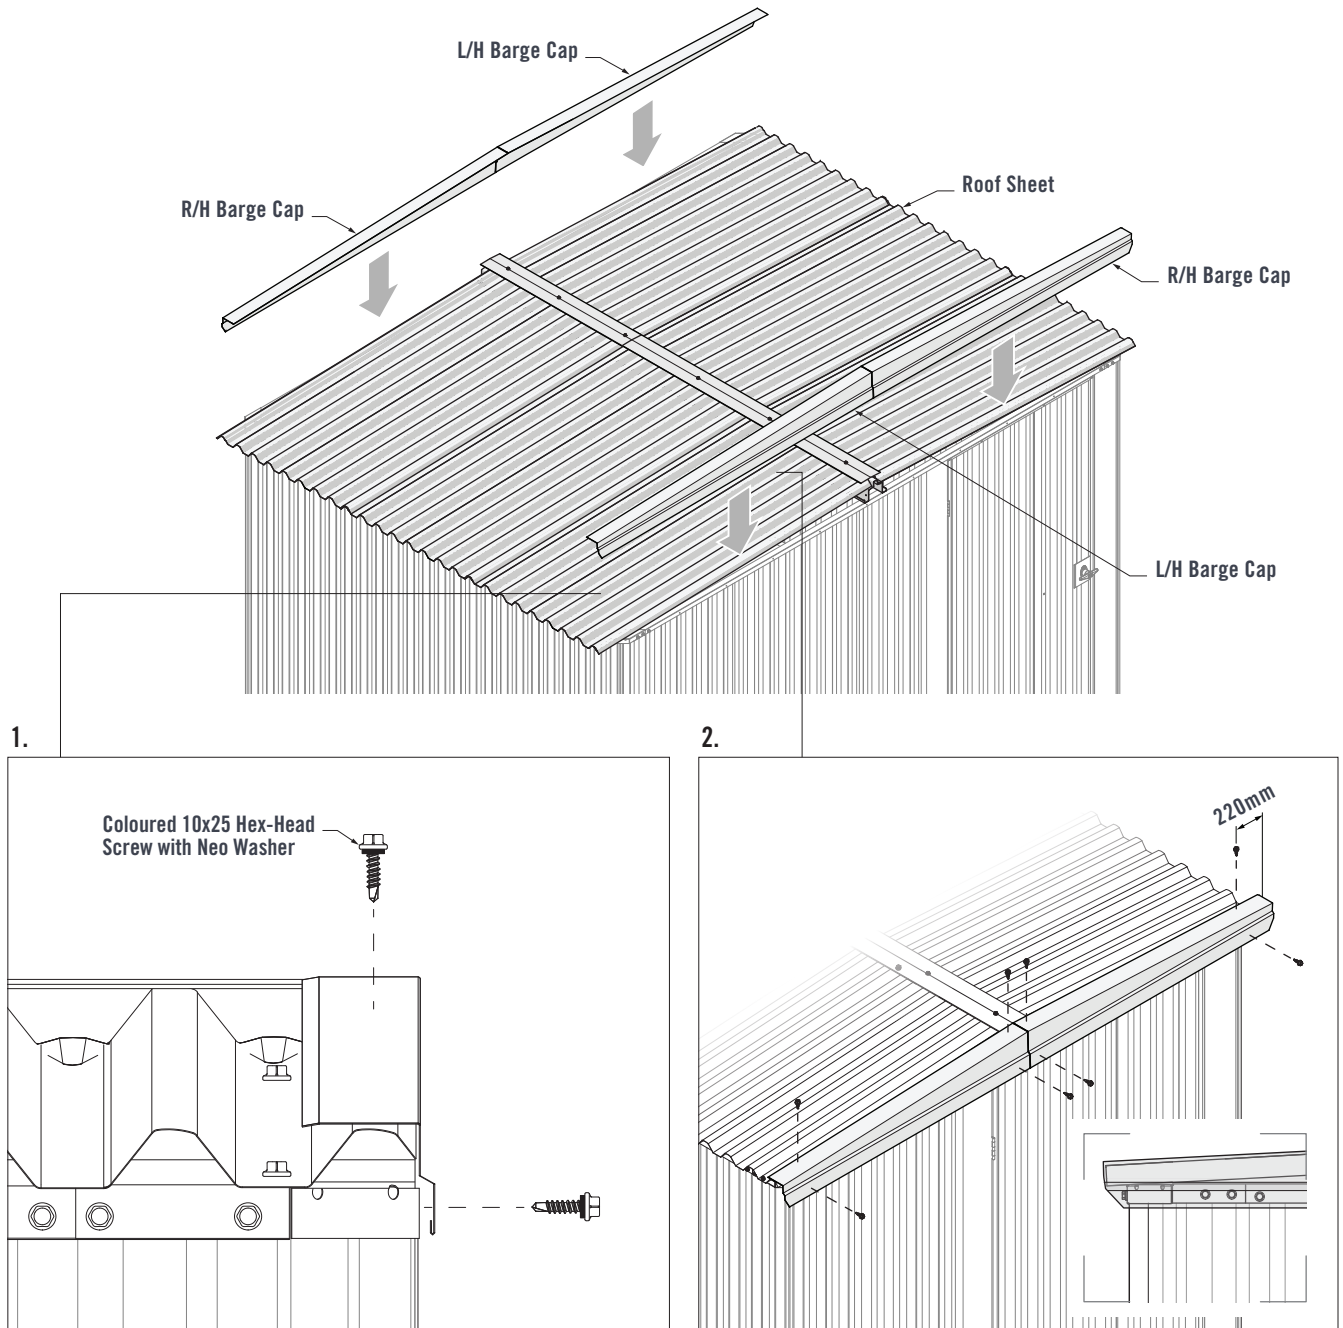

FIGURE 7.6
1. Place the L/H Barge Cap over the Roof Sheet at the front of the shed. The front face of the Barge Cap should fit up against the Roof Sheets (Figure 7.6).
2. The ends of the Barge Cap Should align with the end of the Roof Sheet. Fasten two coloured 10x25 Hex-Head Screws with Neo Washers through the front face of the Barge Cap and into the Wall Channel Assembly. Fasten two coloured 10x25 Hex-Head Screws with Neo Washers through the top of the Barge Cap and into the crests of the Roof Sheets (Figure 7.6).
Install the R/H Barge Cap in the same manner on the front right side of the shed. Install the remaining L/H and R/H Barge Caps to the rear of the shed in the same manner (Figure 7.6).